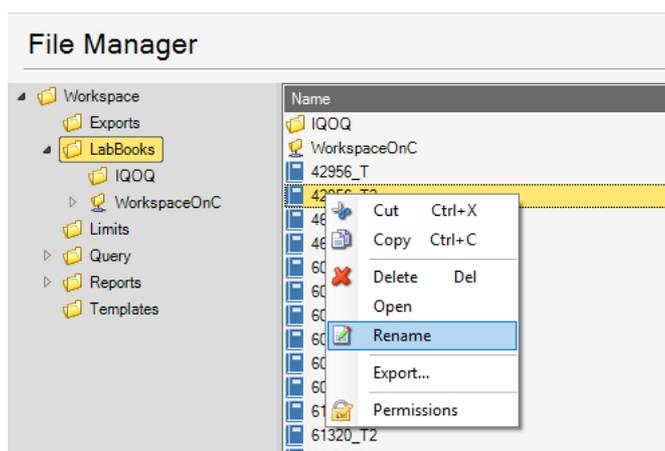

Figure 4-66. Shortcut menu of file for rename
2. Right-click the file you wish to rename, see Figure 4-66.